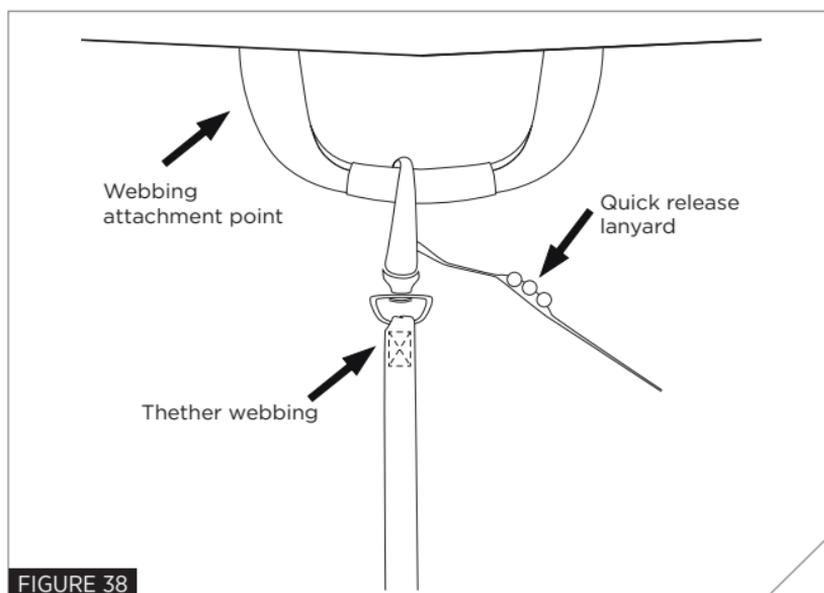

FIGURE 38
- When you're attached to the boat, use a tether of less than 6 feet, 6 inches (2 m) in length with quick-release under-load hardware (Fig. 38)